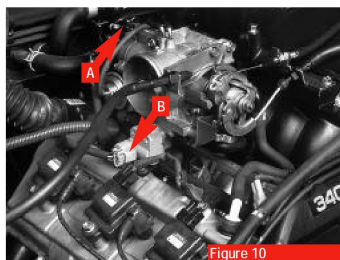

Figure 10
13. Unplug the throttle-position sensor connector (A) and the IAC (Idle Air Control) valve connector (B) (see arrows, figure 10).